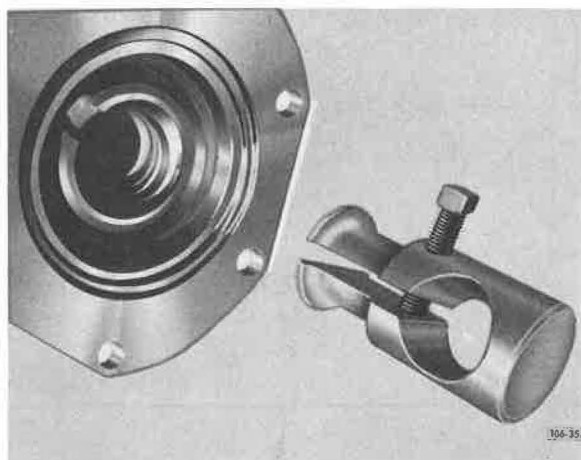

Figure 5-298. Installing Tool
1. To remove oil pump eccentric sleeve and seal assembly, use tool J-23387-01. Insert tool into cover, place spreader jaws behind oil seal, then tighten setscrew to expand jaws and grip rear of oil seal. See Figure 5-298.